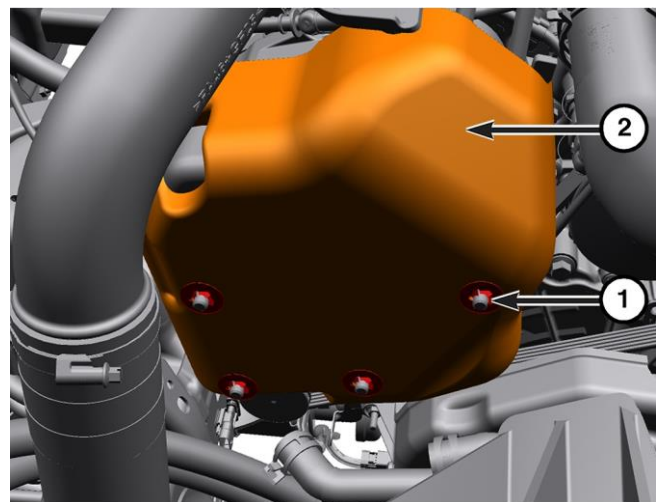

Figure 68 – HPFP Cover
2. Remove the retainers (1) that secure the cover (2) for the high-pressure fuel pump (Figure 68).
23. Install the cover and secure with the retainers (Figure 68).